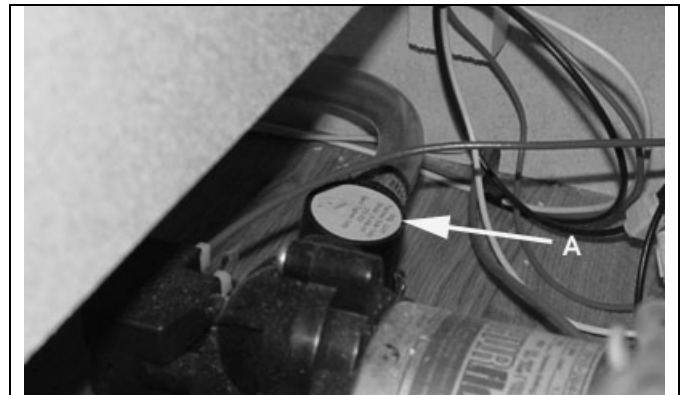

Figure 4-5 – Water Filter/Screen
A water filter/screen is installed on the inlet of the water pump to trap debris before entering the trailer water system. At least every three months, when the water tank is empty, remove the cap (A) and filter/screen. Backwash with clean water, reinstall screen and cap. See figure 4-5.